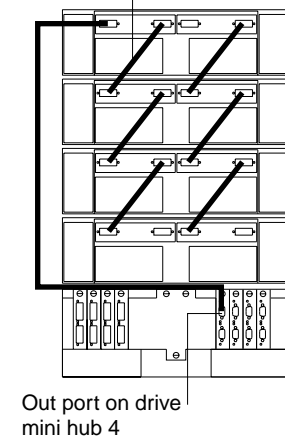

Figure 32. Connecting drive loop A to the FAStT700 Storage Server
1. Connect drive loop A to the FAStT700 Storage Server, as shown in Figure 32.